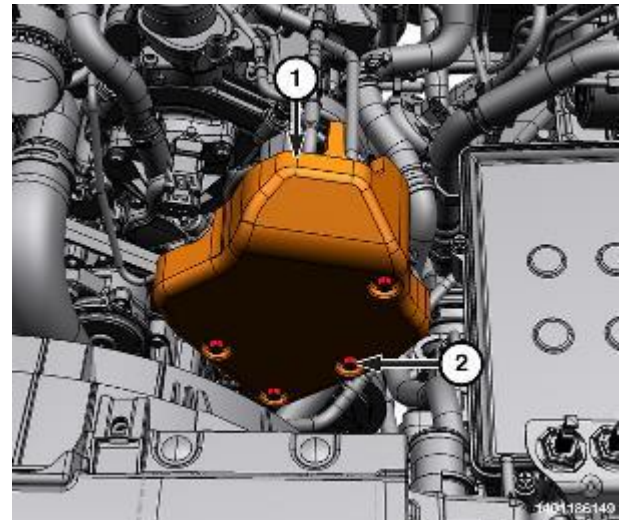

Figure 102 – Blocker Plate
17. Remove the fuel injection pump blocker plate bolts (2) and the fuel injection pump blocker plate (1) from the fuel injection pump (Figure 102).